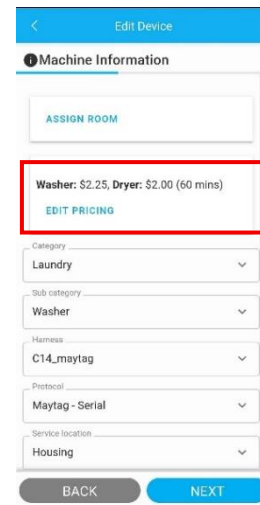

Figure 28
1. On the **Machine Information** Page, tap Edit Pricing (**Figure 28**)